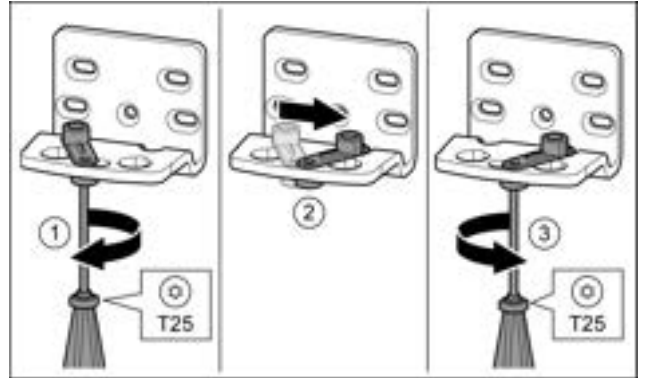

Fig. 16 \*
- ▶ Loosen the screw using a T25 screwdriver. Fig. 16 (1) \*
- ▶ Lift the door closure aid and turn it 90° to the right in the hole. Fig. 16 (2) \*
- ▶ Tighten the screw using a T25 screwdriver. Fig. 16 (3) \*